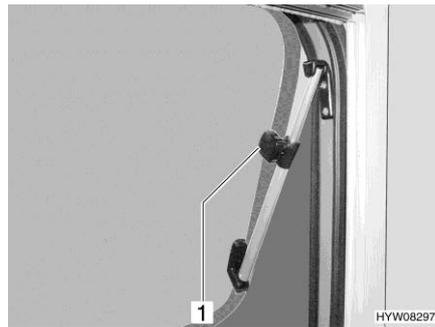
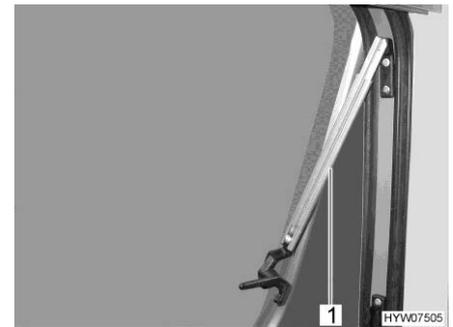

Fig. 54 Hinged window with rotary hinges (open)
Fig. 55 Hinged window with automatic hinges (open)
- Open hinged window half up to the required position. Secure hinged window with a knurled knob (Fig. 54,1) or allow the automatic hinge (Fig. 55,1) to engage automatically.
- Turn the knurled knob (Fig. 54,1) or open the hinged window as wide as is necessary to release the lock.